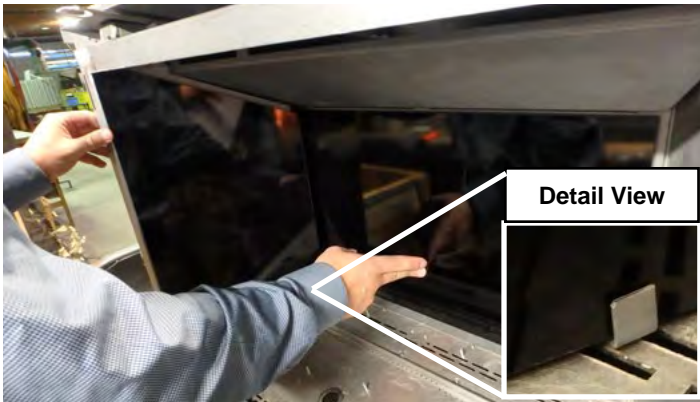

Figure 17.2.07:
Step 9: Slide the remaining side in place, ensuring proper alignment in the lower clip (see detail view in **Figure 17.2.07**).